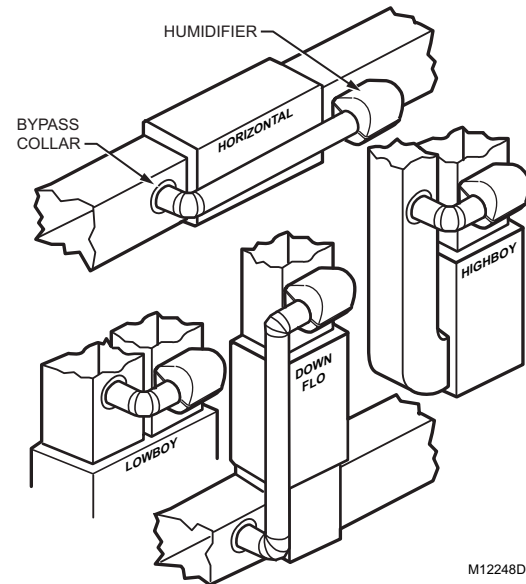

Fig. 1. Typical humidifier installation locations.
1. Determine the best location for the humidifier and draw a level line on the duct. See Fig. 1.